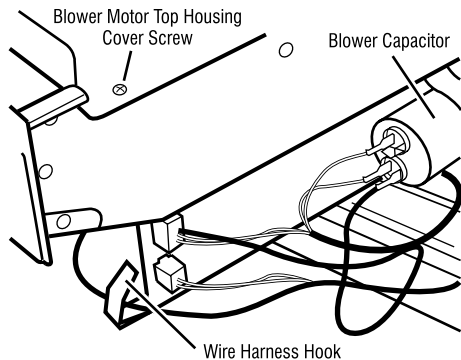

Figure 14. Discharge the blower capacitor at right side of blower motor housing.
- b) Remove the wires from the hook in the blower motor housing. See Figure 14.
- d) **IMPORTANT:** Discharge the blower capacitor by touching a 20,000 Ω resistor to the terminals and chassis. See Figure 14.